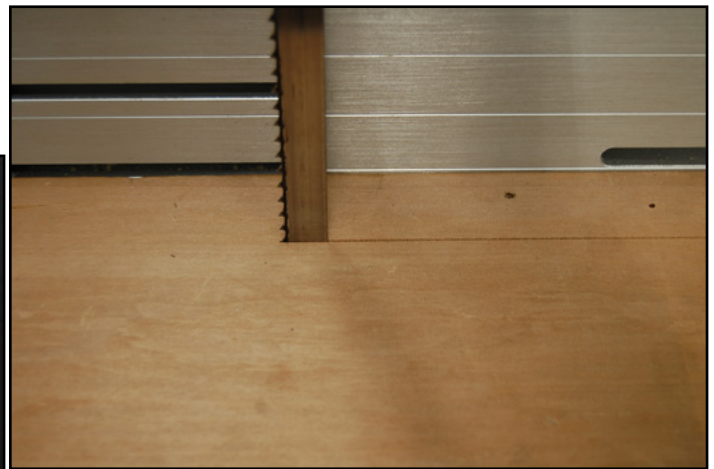

Figure 31: Ripping Cuts
5. **Feed the Workpiece:** With all safety measures in place, slowly and steadily feed the workpiece into the blade. Continue to push the workpiece until the blade has completely passed through it see figure 31